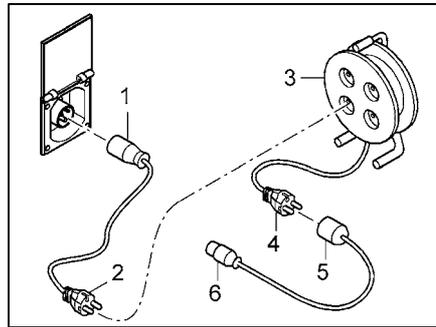

Fig. 98 Connection options for 240 V power connection
- CEE 17 socket with earth contact (Fig. 98,1) – Plug with earth contact (Fig. 98,2)
- Socket with earth contact (Fig. 98,3) – Plug with earth contact (Fig. 98,4)
- Socket with earth contact (Fig. 98,5) – CEE 17 plug with earth contact (Fig. 98,6)